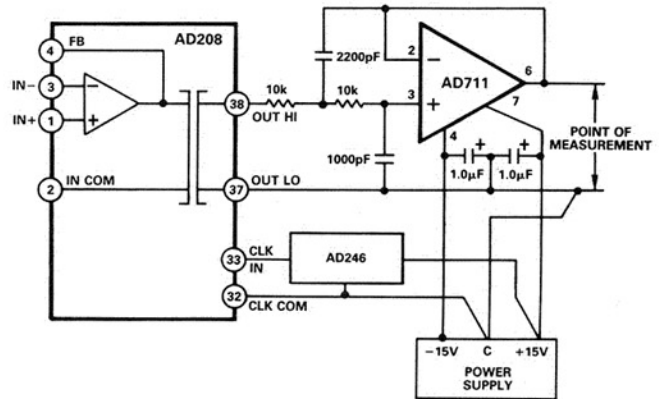

Figure 33. Output Filter Circuit Showing Proper Grounding
**Output Filter Circuit.** Except at the highest useful gains, the noise seen at the output of the AD208 will be almost entirely comprised of the carrier ripple at multiples of 25 kHz. The ripple, when measured over a 100 kHz noise bandwidth, is typically 2 mV pk-pk near zero output and increases to approximately 7 mV pk-pk for outputs of  $\pm 5$  V. The simple two-pole, 5 kHz low-pass Butterworth filter of Figure 33 can be used to reduce the output ripple of the AD208 to approximately 0.1 mV pk-pk and serve as an output buffer for the AD208.
An output buffer or filter may sometimes exhibit voltage spikes on the output even though none were present on the input signal to the buffer/filter. These spikes are usually due to clock noise appearing at the op amp's power supply pins, since most op amps have little or no supply rejection at high frequencies. Another common source of clock-related noise is from the sharing of the ground track by both the output circuit and the power input. The circuit of Figure 33, shows how to avoid these clock noise related problems.
Ideally, the output signal LO lead and the supply common should be tied together at the final signal measurement point as indicated in Figure 33. It may be useful to bypass the output LO to the output common with a 0.1 μF capacitor should the measurement point be more than a few feet from the isolator.